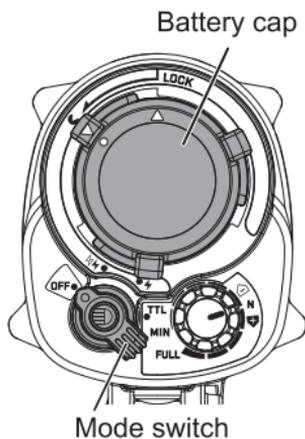

Fig.1
- 1 Make sure that the mode switch is in the OFF position (Fig.1)**
- 2 Turn the [ ▽ ] mark counterclockwise to the [ ⊕ ] mark position (Fig.1)**